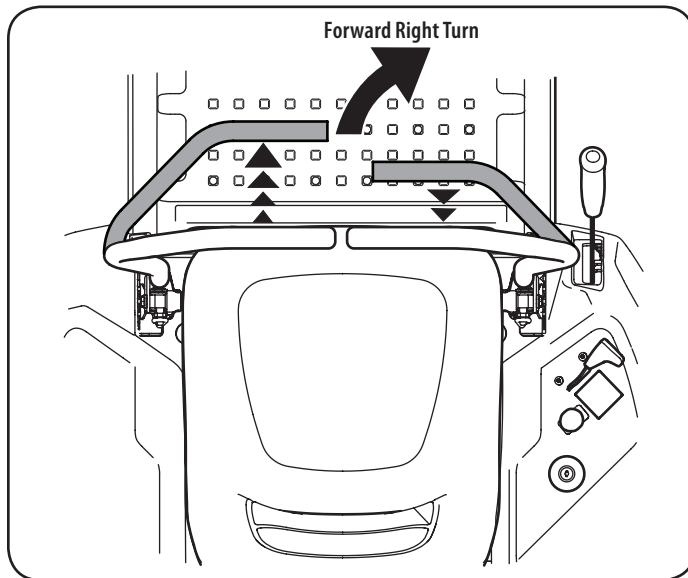

Figure 12
2. To turn to the right, move the right drive control lever rearward of the left lever. See "Figure 12".